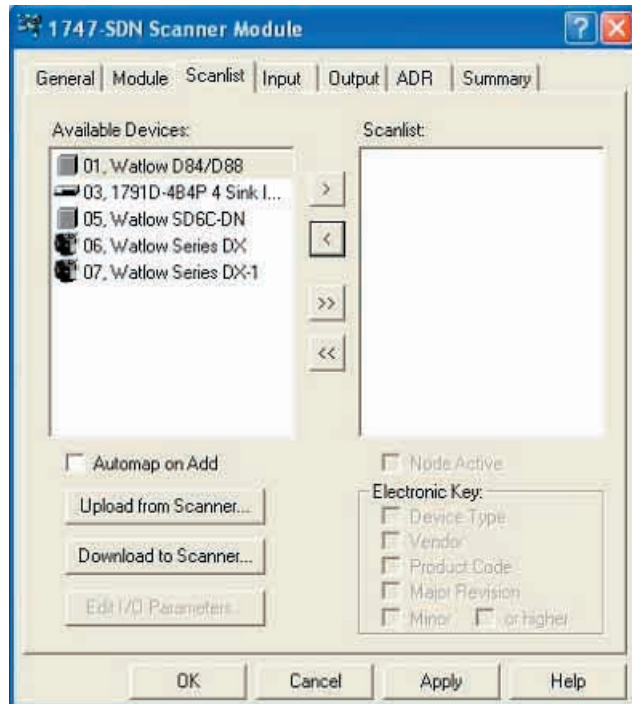

Figure 3.5 Adding the D8 to the Scanlist
1. Double-click the 1747-SDN scanner (see Figure 3.2 on page 48) to open its properties dialog box. The properties dialog lists the *Available Devices* and displays the scanner's *Scanlist* (see Figure 3.5 on page 51). The Scanlist shows the devices that are mapped into the scanner's memory, the Available Devices list displays the devices that are on the network.